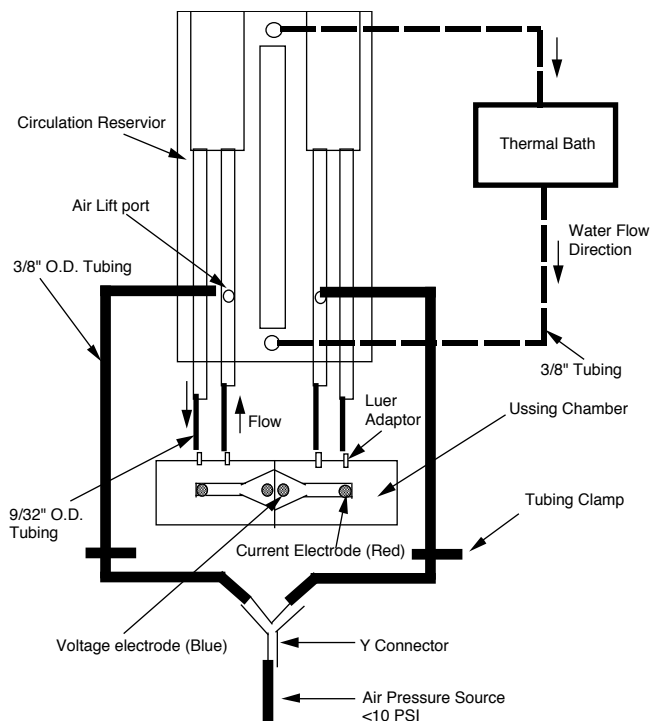

Fig. 4—The circulation flow diagram.
2. Press the red EKC current-passing electrodes into the long cartridge and the blue EKV voltage-sensing electrodes into the short cartridge before the agar gel hardens. Place these assembled electrodes into the proper ports on the Ussing chamber as shown in Figure 4. Connect the 2-mm pin of each electrode to the proper jack on the **EVC3** preamplifier box if **EVC4000 Voltage/Current Clamp** is used, or to the electrode adaptor (WPI# 3993) if an **EVOM2** is used.